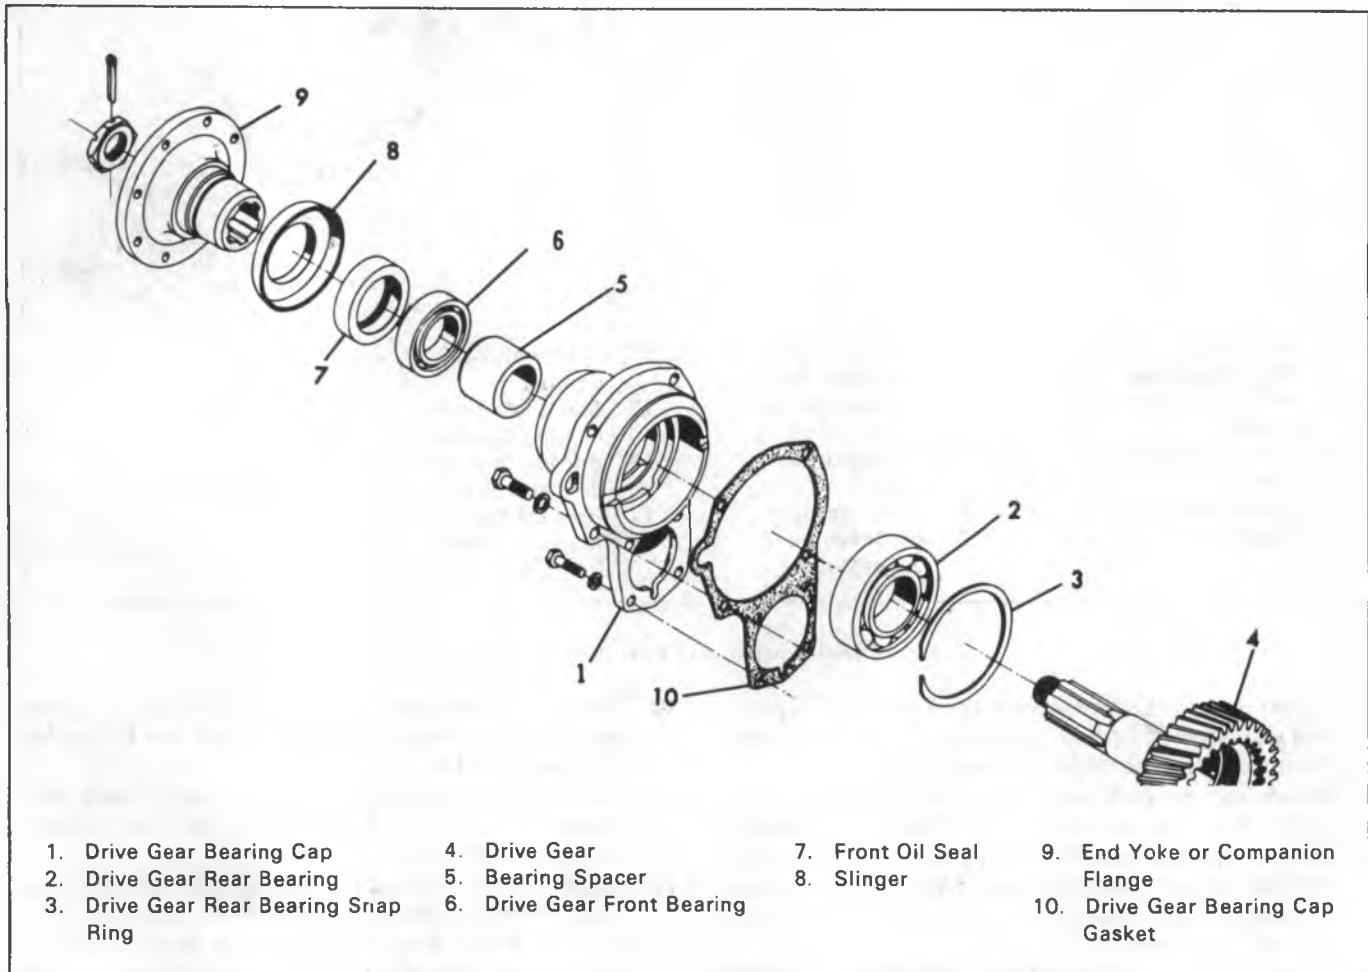

Figure 8F—Main Drive Gear and Bearing Details
14. Remove drive gear bearing cap (1), Figure 8F.
### Drive Gear (Figure 8F)